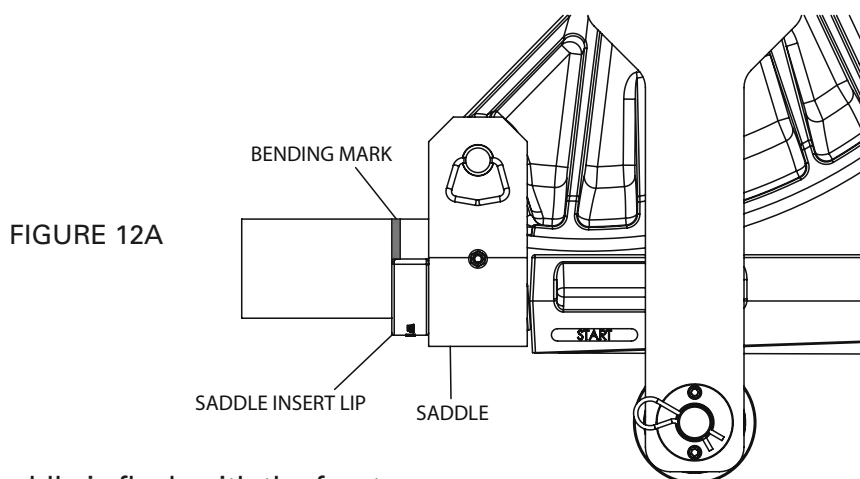

FIGURE 12A
NOTE: The saddle insert lip that extends out should face away from the follow bar (See figure 12A).
14. Make sure the saddle is flush with the front of the follow bar. The bending mark on the conduit should be aligned with the front edge of the saddle insert lip (see figure 12A). Rotate the pump valve lever to the closed position and activate the hydraulic pump until the shoe contacts the conduit and the saddle and follow bar are snug.